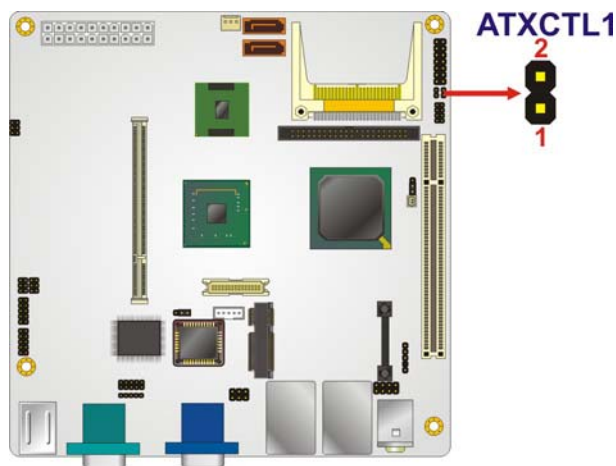

Figure 5-2: AT/ATX Power Selection Jumper Location
- Jumper Location: See Figure 5-2
The location of the AT/ATX Power Selection jumper are shown in Figure 5-2 below.